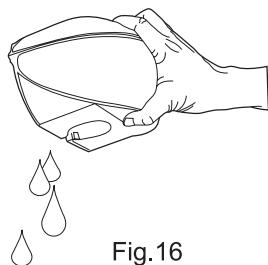

Fig.16
2. After use, slide out the water tank and pour out all the remaining water. (Fig.16)